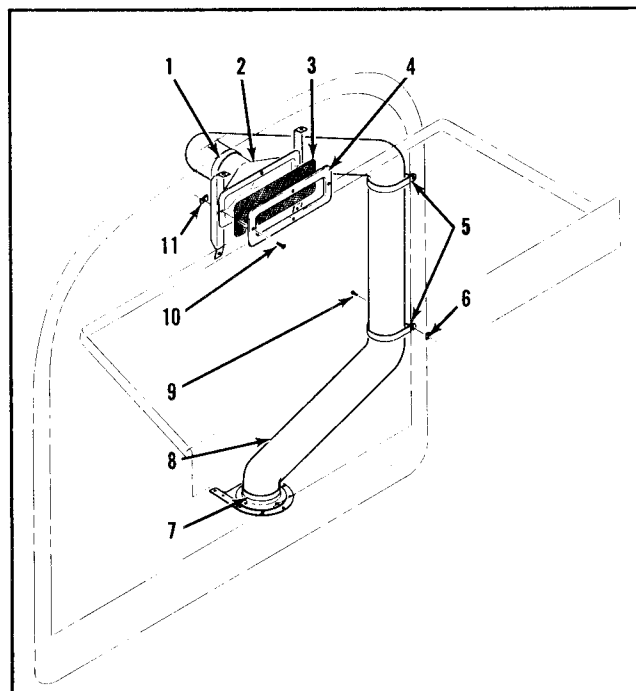

Figure 3-7. Air Spill Vent
3-90. AIR SPILL VENT. (See figure 3-7.)
3-91. The air spill vent illustrated in figure 3-7 was installed on serials 35772 thru 35937 with the following optional seating arrangements: the five single seat arrangement, the four single seat arrangement, and the lounge. On serial 35938 and on, the air spill vent illustrated in figure 3-7 is standard equipment.
3-92. REMOVAL OF AIR SPILL VENT. (See figure 3-7.)
3-93. INSTALLATION OF AIR SPILL VENT. (See figure 3-7.)
- Position adapter (2), screen (3), and retainer (4) as illustrated in figure 3-7 and secure with screws (10) and nuts (11).
- Position duct (8) on upper and lower adapters and secure with clamps (1 and 7).
- Attach duct to bulkhead with clamps (5) by installing screws (9) and nuts (6).